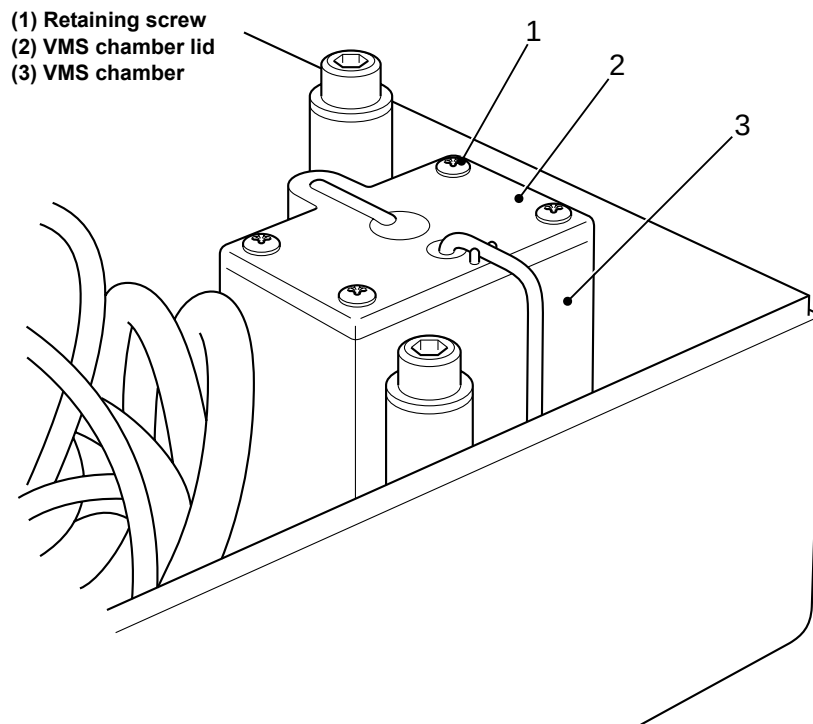

Figure 11-4. VMS chamber
- 3 Remove the four retaining screws (Item 1 in Figure 11-4) from the top of the VMS chamber (3) remove the lid (2) and sealing gasket located under the lid. Note the orientation of the gasket.